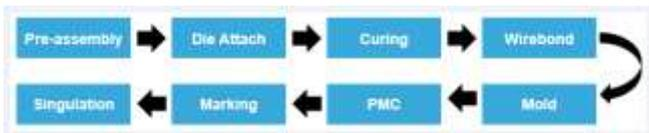

Fig. 1. QFN/QFP Assembly process flow.
- Illustrated in Fig. 1 is the QFN Assembly process flow.